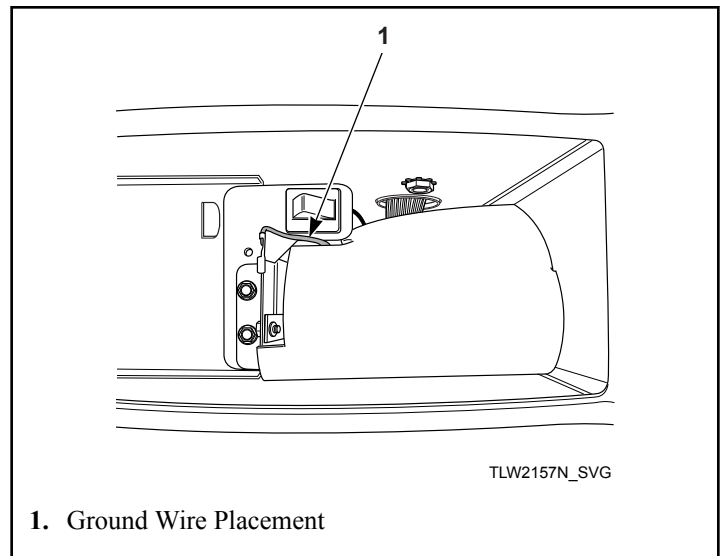

Figure 38
7. Before installing coin slide and extension, make sure ground wire is tucked under control shield to provide clearance for coin slide. Refer to *Figure 38*.